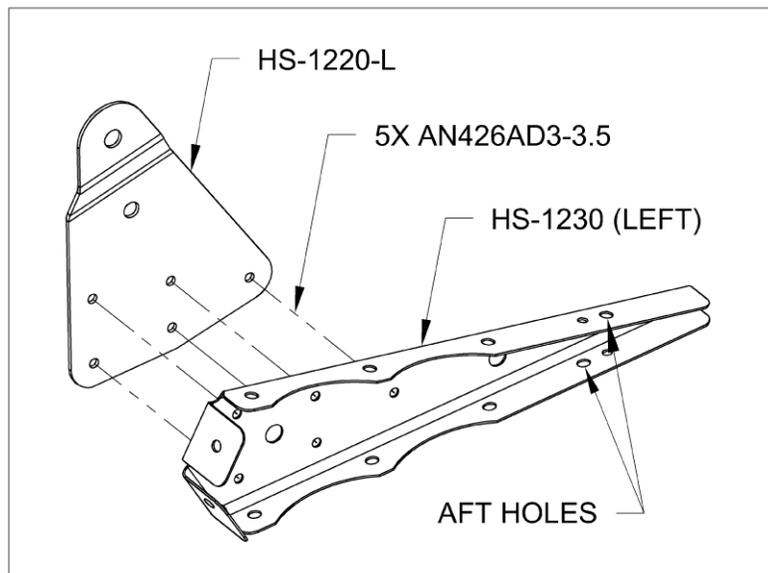

FIGURE 4: HORN ASSEMBLY
Step 10: Rivet the HS-1230-L Inbd Rib to the HS-1220-L AST Control Horn per the call-outs in Figure 4. Hereafter refer to the horn and rib as the Horn Assembly. Insert the Horn Assembly into the AST.